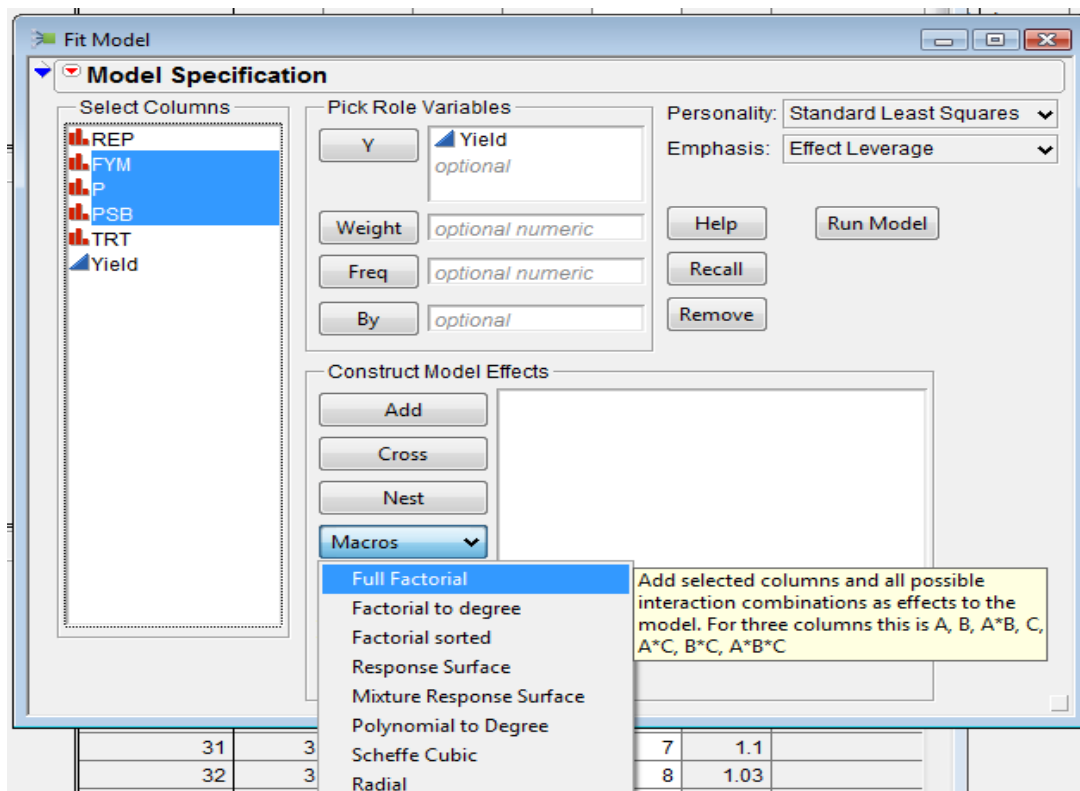
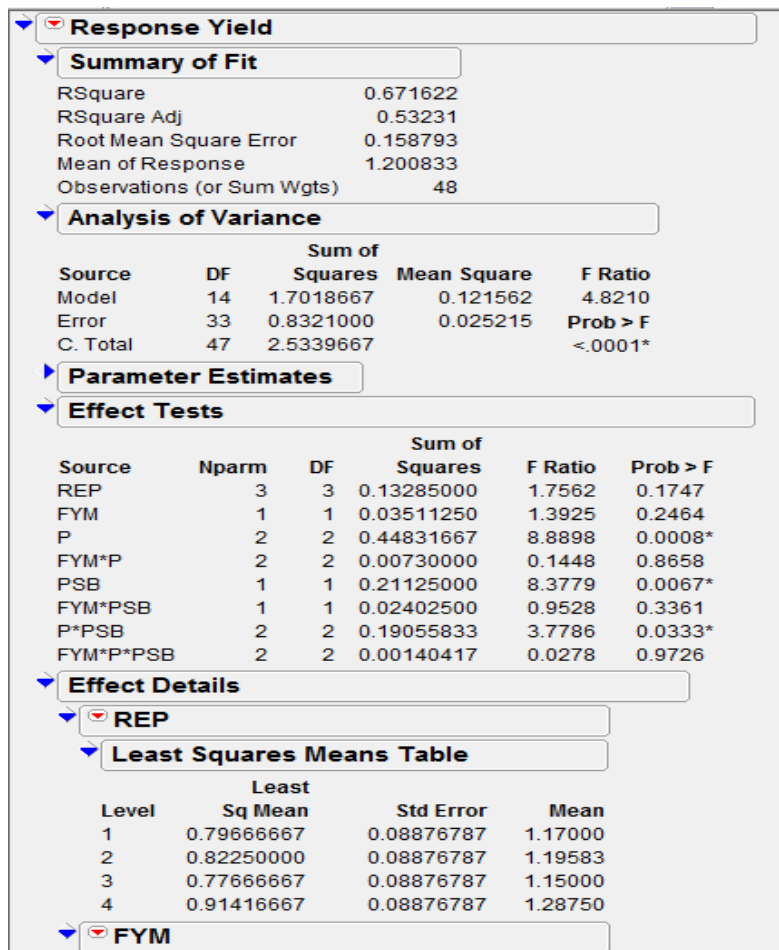

Figure 5.8.1: Fit Model dialog box
Figure 5.8.2: Factorial RCB partial output
4. Put the response variable, Yield → **Y**. Add REP from **Select Columns List** → **Construct Model Effects**, select FYM, P and PSB and click on **Macros** → **Full Factorial** → (See Figure 5.8.1) → **Run Model**. (See Output in Figure 5.8.2). One can also select **Emphasis** → **Minimal Report** to get output without Effect Leverage Plot.